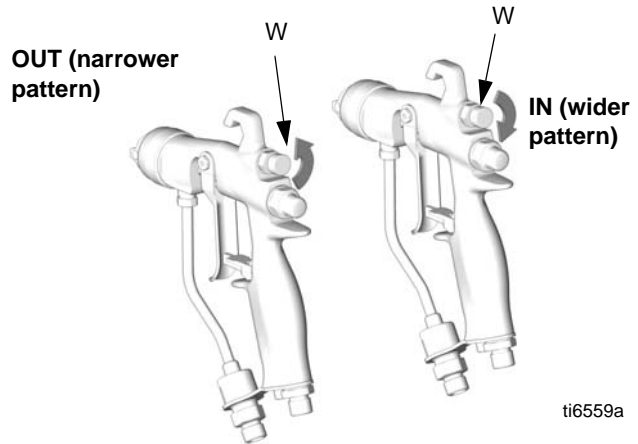

FIG. 6. Pattern Air Adjustment
6. See FIG. 6. Close off pattern adjustment air by turning knob (W) clockwise (in) all the way. This sets gun for its widest pattern.
See FIG. 6. For narrower pattern, turn pattern adjustment valve knob (W) counterclockwise (out). If pattern is still not narrow enough, increase air pressure to gun slightly or use different size tip.